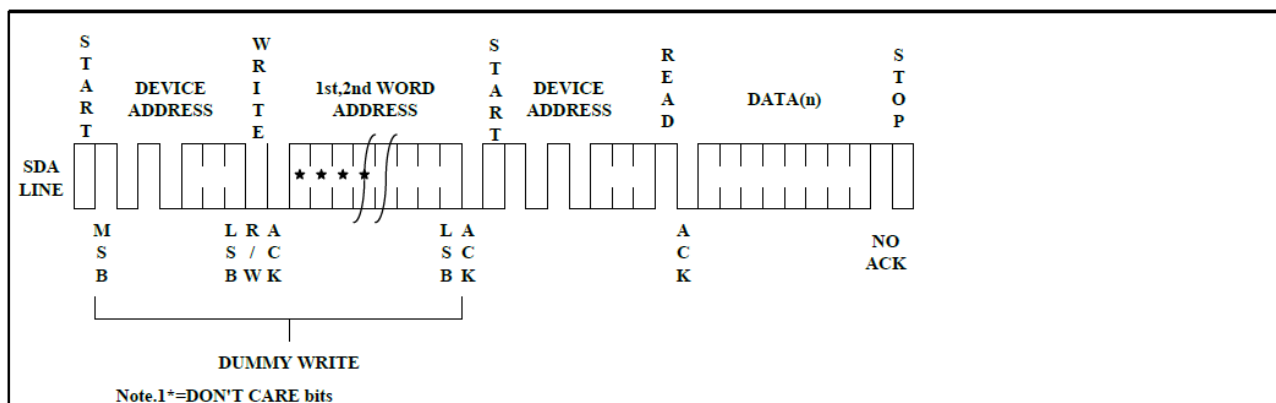

Figure7 Random Read
**RANDOM READ:** A random read requires a "dummy" byte write sequence to load in the data word address. Once the device address word and data word address are clocked in and acknowledged by the EEPROM, the microcontroller must generate another start condition. The microcontroller now initiates a Current Address Read by sending a device address with the read/write select bit high. The EEPROM acknowledges the device address and serially clocks out the data word. The microcontroller does not respond with a "0" but does generate a following stop condition (see Figure 7 ).